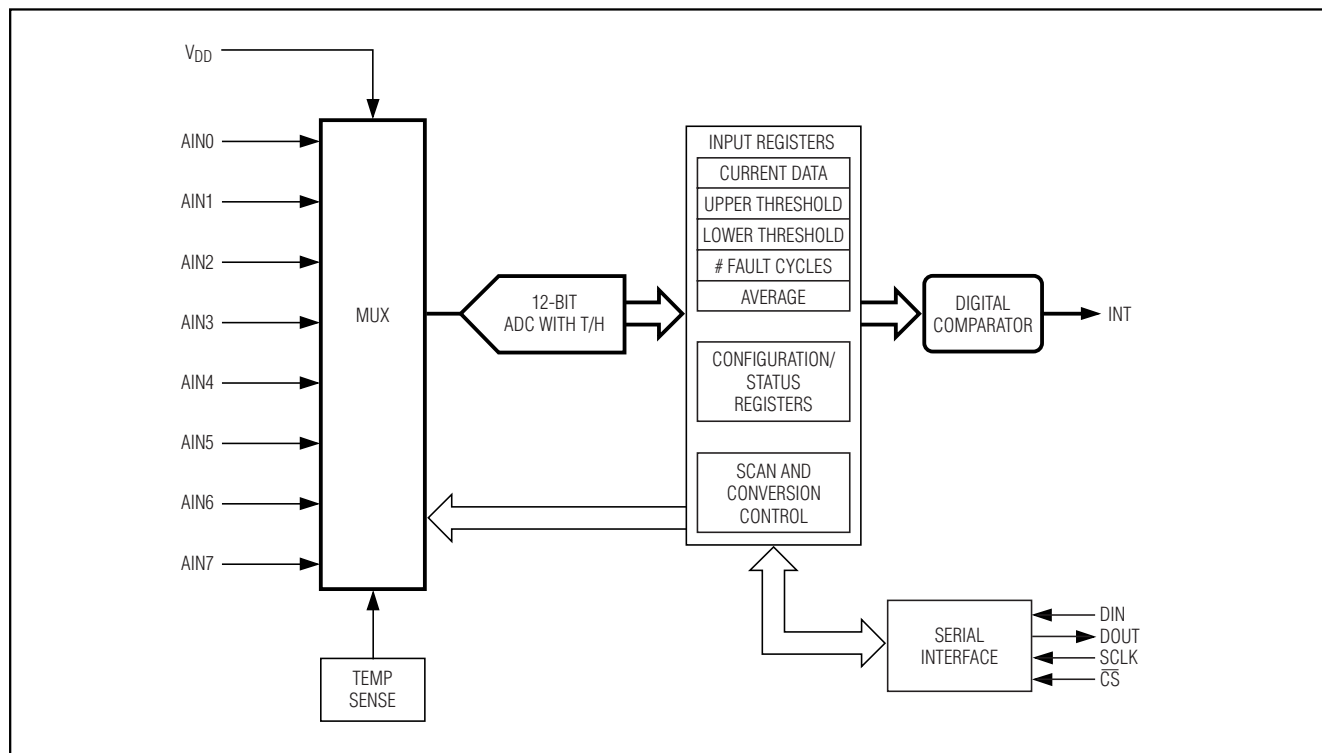

Figure 3. Simplified Alarm Block Diagram of the MAX1253/MAX1254
**Note 6:** See Figure 3 and the Sampling Error vs. Input Source Impedance graph in the *Typical Operating Characteristics* section.
The MAX1253/MAX1254 are precision-monitoring integrated circuit systems specifically intended for stand-alone operation. They can monitor diverse types of inputs, such as those from temperature sensors and voltage signals from pressure, vibration, and acceleration sensors, and digitize these input signals. The digital values are then compared to preprogrammed thresholds and, if the thresholds are exceeded, the processor is alerted by an interrupt signal. No interaction by the CPU or microcontroller ( $\mu$ C) is required until one of the programmed limits is exceeded (Figures 3 and 4).